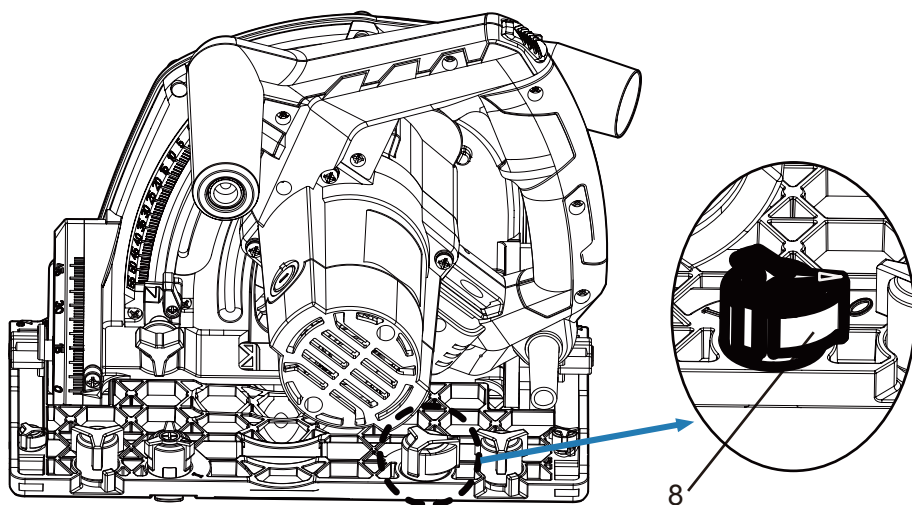

Fig. 19
Rotate the anti-kickback knob (8) to the '0' position (before you place the saw in the track). (Refer to Fig. 19)